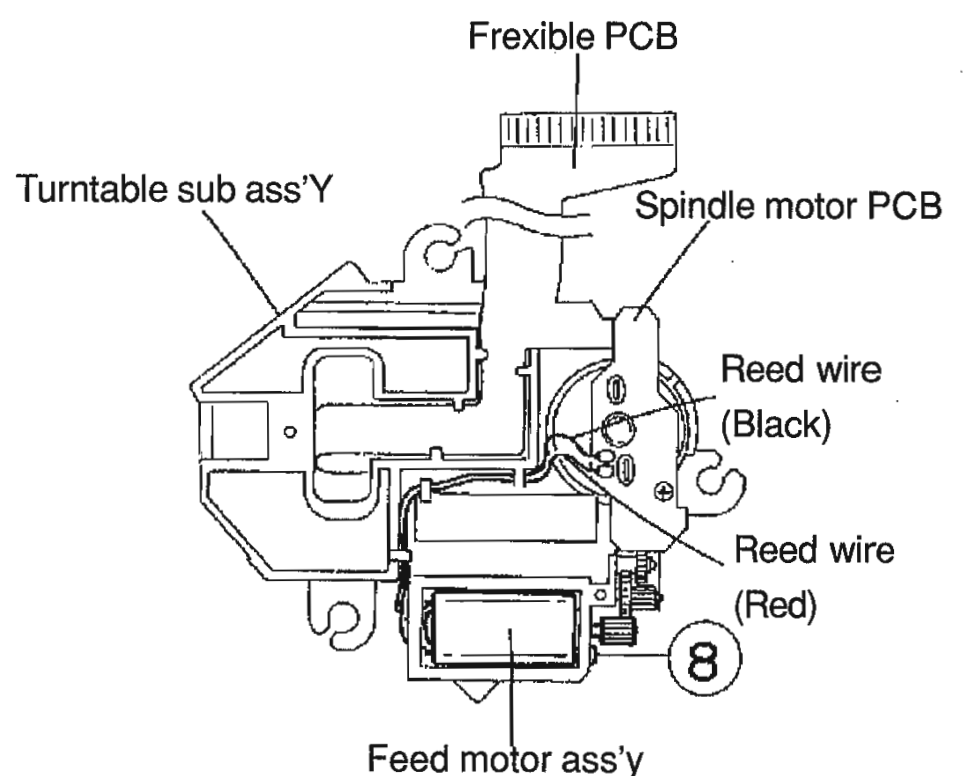

Fig.16
4. After removing the one screw ⑧ retaining the feed motor assembly, take out this assembly (See Fig.16).
5. After turning over the CD mechanism, remove it from the lead wire treating key way on the feed motor assembly (See Fig.16).
6. Remove the soldered portion of the lead wires (red and black) from the spindle motor P.C.board (See Fig.16).